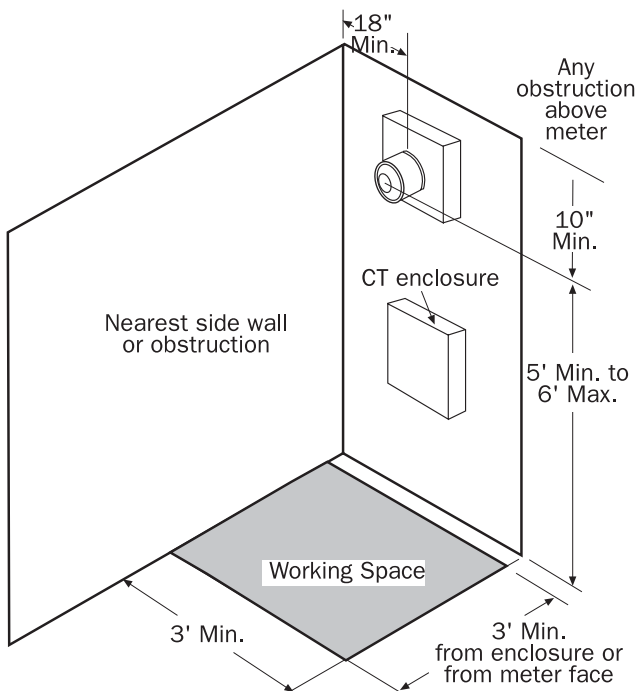

Figure D-5.
- A minimum working space of 36 inches wide by 36 inches deep is required around the meter (see Figure D-5). This working space is to be kept clear of any obstructions including landscaping.